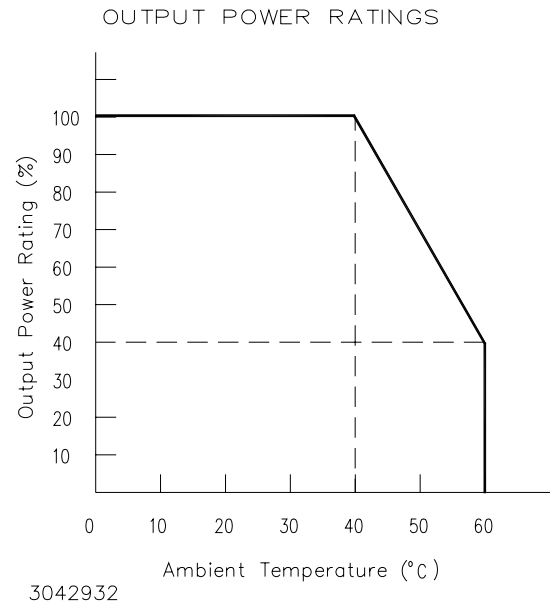

FIGURE 4. % OUTPUT POWER RATING VS. AMBIENT TEMPERATURE
(1) Derates same as Output Power.
(2) Current Limit is rectangular. After the overload is removed, output is automatically restored.
(3) See power derating curve, Figure 4.
OPERATING TEMPERATURE: See Figure 4.